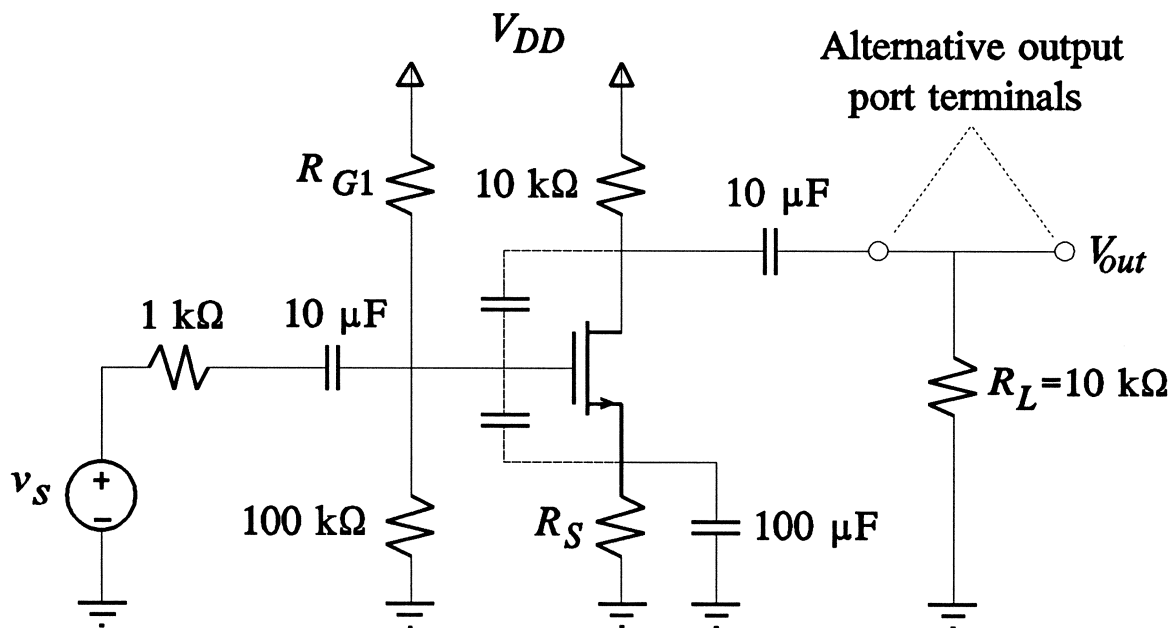

Fig. L3 A simple single-stage amplifier.
A simple, single-stage amplifier will be used throughout this lab. It is shown in Fig. L3.
- (1) Define the Control block to use "Non\_Microwave\_Units".
- (2) Create the Model block. Describe the circuit elements and topology using "RES", "CAP" and/or "PRC" (Manual Chapter 8 - "Linear Elements"), "FETM" (Manual Chapter 7 - "Nonlinear Elements"), "VSOURCE" (Manual Chapter 6 - "Circuit Models"), and "PORT" (Manual Chapter 6 - "Circuit Models"). Complete the circuit description using the CIRCUIT statement (Manual Chapter 6 - "Circuit Models"). The following hints should be helpful in setting up the circuit description.
- (c) The load resistance  $R_L$  may or may not be included in the output "PORT" definition. For some experiments it might be advantageous to include  $R_L$  in the 2-port while for others it might be better to define it as the terminating impedance (see Fig. L3).
- (3) Create the Sweep block (Manual Chapter 9 - "Simulation"). Initially define one sweep set with the simulation type of "DC". No sweep parameters will be needed, so only numerical output will be available. Define the currents  $I_G$  and  $I_D$  through the gate and drain DC bias sources as the responses to be simulated.
- (4) Show your input file to the instructor.
- (1) Augment your Model block of the input file to calculate the voltage gain  $V_{gain} = V_{out}/V_s$  where  $V_{out}$  is the voltage across  $R_L$ .  $V_{gain}$  can be calculated from the  $S$  parameters in the following way. If you select the reference resistance for the calculation of  $S$  parameters as the input resistance  $R_{ref} = R_{in}$  and if you include  $R_L$  in the 2-port (i.e., the amplifier - see Fig. L3) then the voltage gain can be expressed as